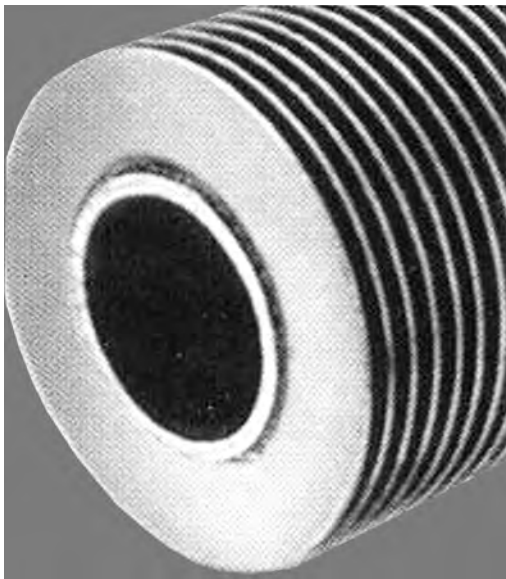

FIGURE 13.6 Continuous circular fins on a tube.
- The finned surface in Figure 13.6 is made by the use of solid fin formed by stretching a strip of metal around the tube.